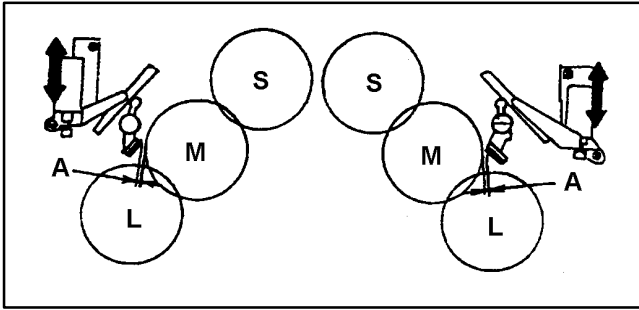

Figure 1-8-2
2. Observe the clearance (A) between Brake pad and it's turntable as shown in Figure 1-8-2. And make sure that it is within 0.2 to 0.5mm.
3. If not, loosen the 2 screws (A), which fixed supply and Take Up Brake Solenoid Unit. And adjust the position of Brake Solenoid Unit by moving arrow direction so that the clearance (A) is within specification. And tighten the 2 screws (A).
4. After adjustment, change the reel position to S and L cassette size, and confirm that the clearance (A) is within specification.